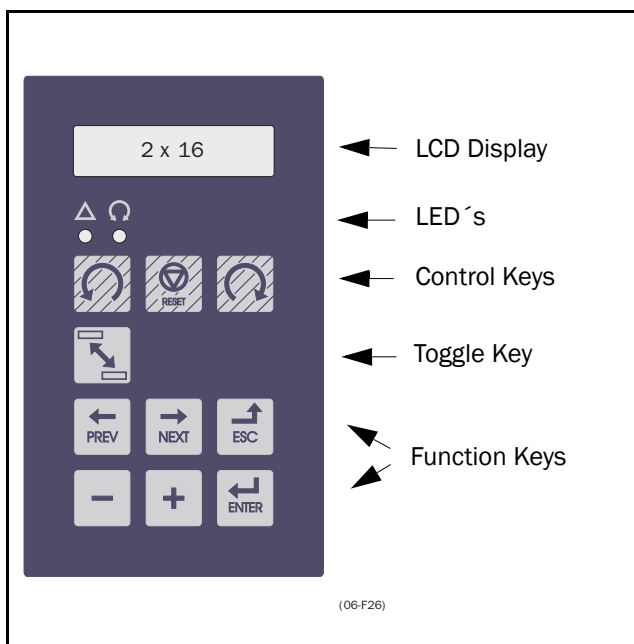

Fig. 17 Control Panel.
Fig. 17 shows the Control Panel (CP). The Control Panel displays the status of the inverter and is used to program all the settings. It is also possible to control the motor directly from the Control Panel.